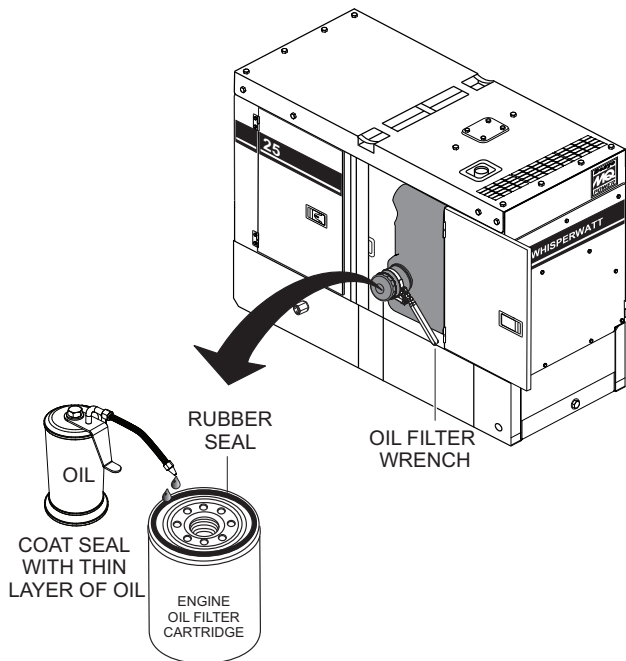

Figure 64. Oil Filter Removal
- Using an oil filter wrench (Figure 64), remove the engine oil filter.
- Coat the rubber seal (gasket) surface of the oil filter (Figure 64) with clean 15W-40 engine oil.